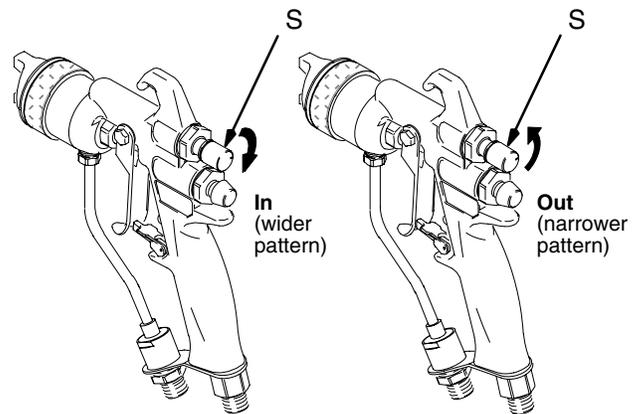

Fig. 5
- Close off the pattern adjustment air by turning the knob (S, see Fig. 5) clockwise (in) all the way. This sets the gun for its widest pattern.
For a narrower pattern, turn the pattern adjustment valve knob (S, see Fig. 5) counterclockwise (out). If the pattern is still not narrow enough, increase the air pressure to the gun slightly or use a different size tip.